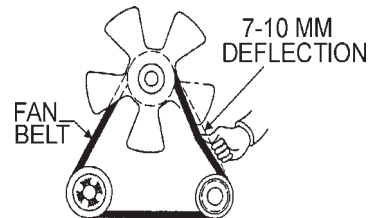
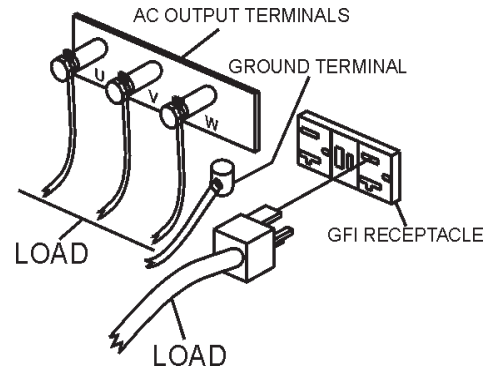

Figure 40. Fan Belt Tension
Figure 43. UVW Terminal Lugs (Load)
The fan belt tension is proper if the fan belt bends 7 to 10 mm (Figure 40) when depressed with the thumb as shown below.
2. Connect the load to the UVW terminals as shown in Figure 40. These terminals can be found on the output terminal panel, (see page 35 Figure 14). To gain access to the output terminals lift the UVW cover. Tighten terminal nuts securely to prevent load wires (Figure 43) from slipping out.